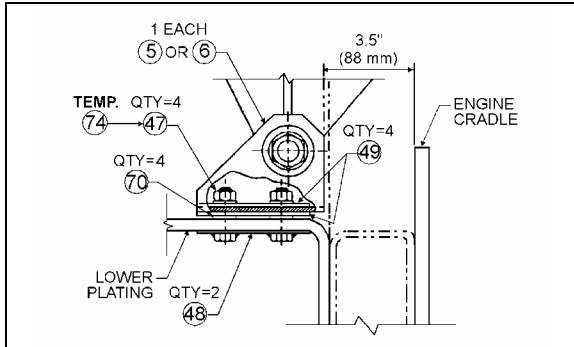

FIGURE 17: ANGLE SUPPORT 05014
1. Install both attachment assembly plates (P/N 051779) (48, Fig. 17) through lower plating and secure with four spring nuts (P/N 500666), (70, Fig. 17). Then install one spacer (P/N 050705), (49, Fig. 17) on each spring nut at both anchoring locations (Fig. 17).
only) or by shimming with additional spacers at anchoring locations. Temporarily secure assembly with two nuts (P/N 500709), (74, Fig. 17) at both anchoring locations.
- Check alignments again (steps 2, 3 & 4) then replace temporary anchoring nuts (P/N 500709) (74, Fig. 17) with four nuts (P/N 500714) (47, Fig. 17) and tighten using a wrench.